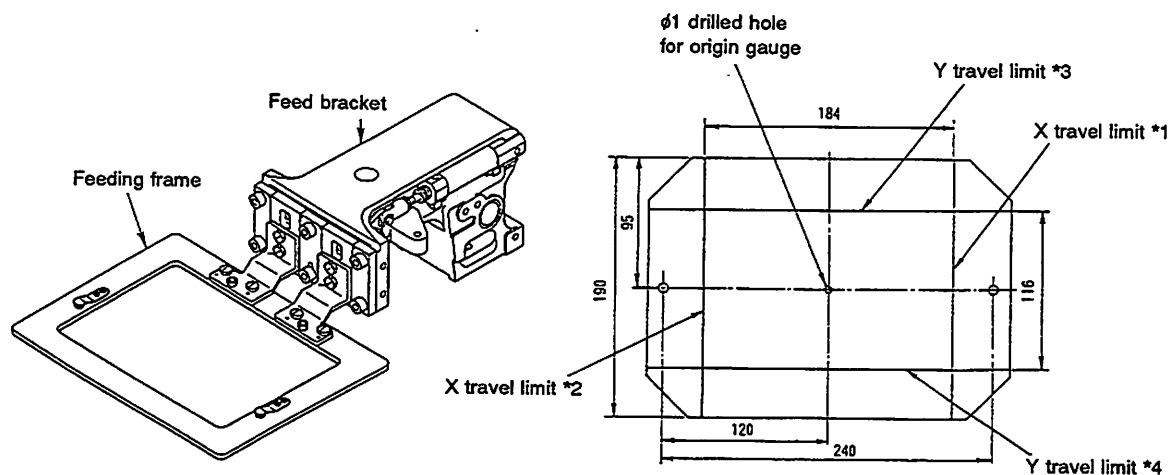

Fig. 5-33-1
- 2) Press jog keys [4◀] and [6▶] on the operation panel to move the feeding frame to the right or left so that the needle point stops on the X travel limit of the origin gauge. (± 1.5 mm) (Error indication [4] will be shown.) (Fig. 5-33-1, Fig. 5-33-3)
- 4) Press jog keys [8▲] and [2▼] on the operation panel to move the feeding frame forward and backward so that the needle point stops on the Y travel limit of the origin gauge. (± 1.5 mm) (Error indication [4] will be shown.) (Fig. 5-33-1, Fig. 5-33-3)